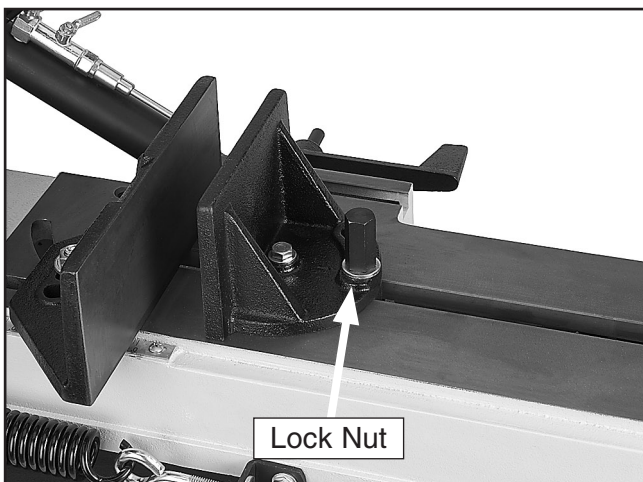

Figure 24. Vise jaw lock nut.
4. Loosen the lock nut in **Figure 24** on the opposite jaw so the jaw can float, and match the angle of the workpiece.